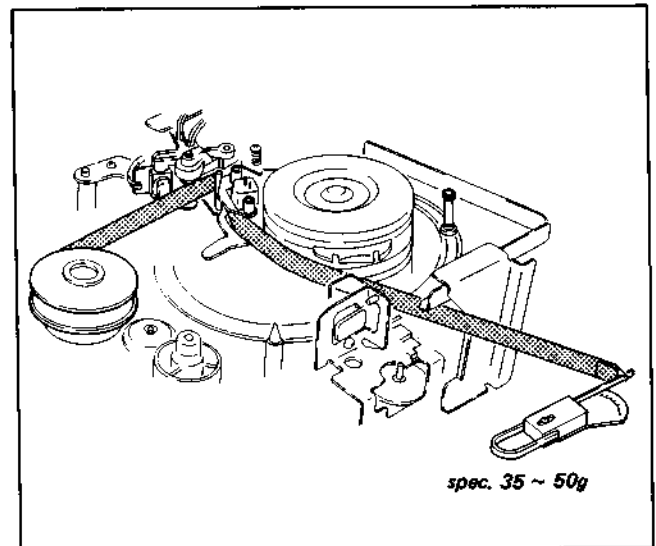

Fig. 3-49. FWD back tension adjustment (1)
- 2) Place the FWD back tension jig (Ref. No. J-5) on the supply reel table assembly and thread the tape as shown in Fig. 3-49. Hook the sector type gauge (100g full scale, Ref. No. J-7) to the end of the tape.